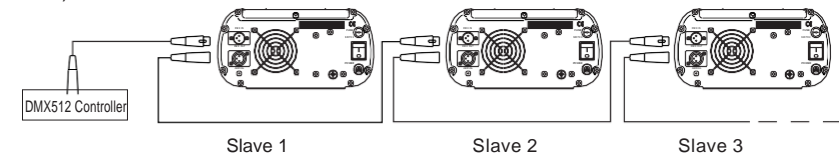

Fig. 2
- ① If you need Master/Slaves to change color synchronously, please set all of slaves into "001";
- ② If you need Master/Slaves to change color in sequence, please set slaves into "006", "011" and so on (add "5" one after another) .
(3) The connection of DMX Signal Control Mode (See Fig. 2):